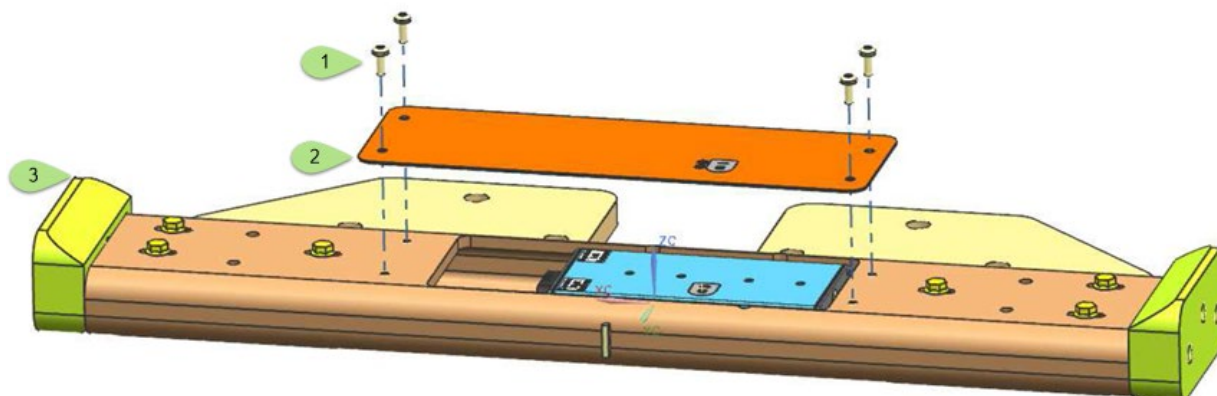

Figure 2 - LIM Cover Plate
- Mount the cover plate and align the LED on the LIM to complete assembly [Figure 2]
3.3.1.1 Part Numbers & Torque Settings [Figure 2]